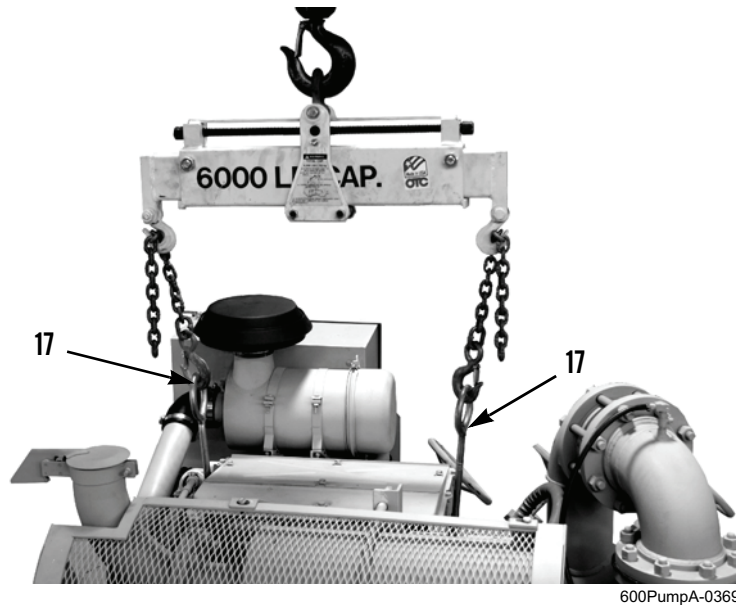

Figure 17. Lifting Eyebolts.
13. Remove lifting eyebolts (Figure 17, Item 17) and lifting equipment from engine.